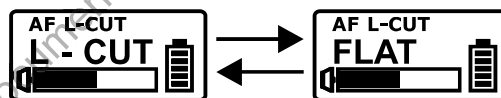

Fig. 11
(B) AF L-CUT: AF Low-Cut Setting. Fig. 11
- (1) Select L-CUT or FLAT.
- (2) L-CUT: the frequency response at 100Hz will decrease about 3dB with a slope of -6dB/Octave.